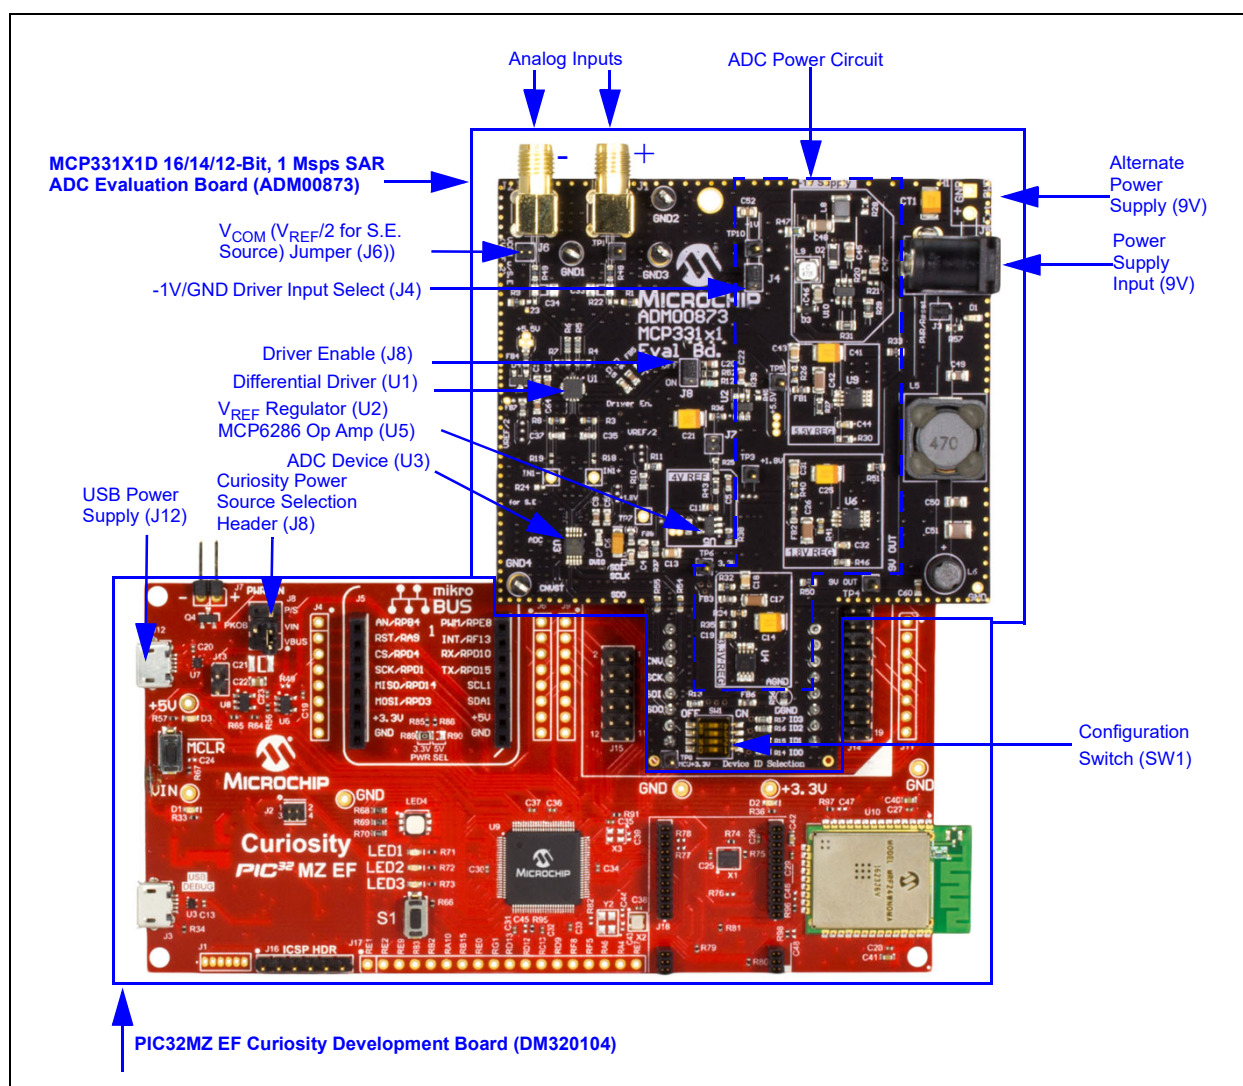

FIGURE 3-1: The MCP331X1D 16/14/12-Bit, 1 Msps SAR ADC Evaluation Board (ADM00873) connected to the PIC32MZ EF Curiosity Development Board (DM320104).
Each evaluation board features a 4-way SPST DIP switch (schematic designator: SW1) that allows the user to manually configure the board for a variety of available Microchip SAR ADC devices. Table 2-2 lists each available switch setting. Refer to Figure 3-1 from Chapter 3. "Installation and Operation" to view the location of SW1.
This MCP331X1D Evaluation Board comes with a 9V wall plug-in switching power supply (CUI INC P/N: SW112-9-N-P6). This power supply is able to provide a 9V, 1.2A maximum output. It can be connected to an AC wall outlet rated between 100V AC and 240V AC, at a frequency of 50 Hz to 60 Hz. The other end of the power supply is a 2.1 mm barrel plug that connects to the MCP331X1D Evaluation Board (see Figure 3-1). If the user chooses to connect a different external power supply, a minimum output of *500 mA is required*, with a voltage output between 6V-12V. There is no on-board 9V regulator, so the 9V OUT pin (TP4) will read a voltage equal to the voltage input value selected by the user.
1. Connect the MCP331X1D Evaluation Board and the PIC32MZ EF Curiosity Development Board, as shown in Figure 3-1.
2. Connect the PIC32MZ EF Curiosity Development Board to a computer using a Type A male to Micro-B USB cable. In order to power the Curiosity Board through USB, the USB cable must be plugged into the USB connection located at J12. In addition to this, the headers located at J8 need to have the jumper connecting the V_{BUS} pin to V_{IN} . Figure 3-1 shows the component locations.
4. Connect a differential or single-ended analog input signal to the MCP331X1D Evaluation Board SMA terminals. For single-ended operation, populate jumper J6 (see Figure 3-1 for jumper location). By populating this jumper, the negative signal input will be tied to $V_{REF/2}$ (V_{COM}). Another option is to terminate the negative signal input (J2) with 0Ω . This can be done by shorting C34.